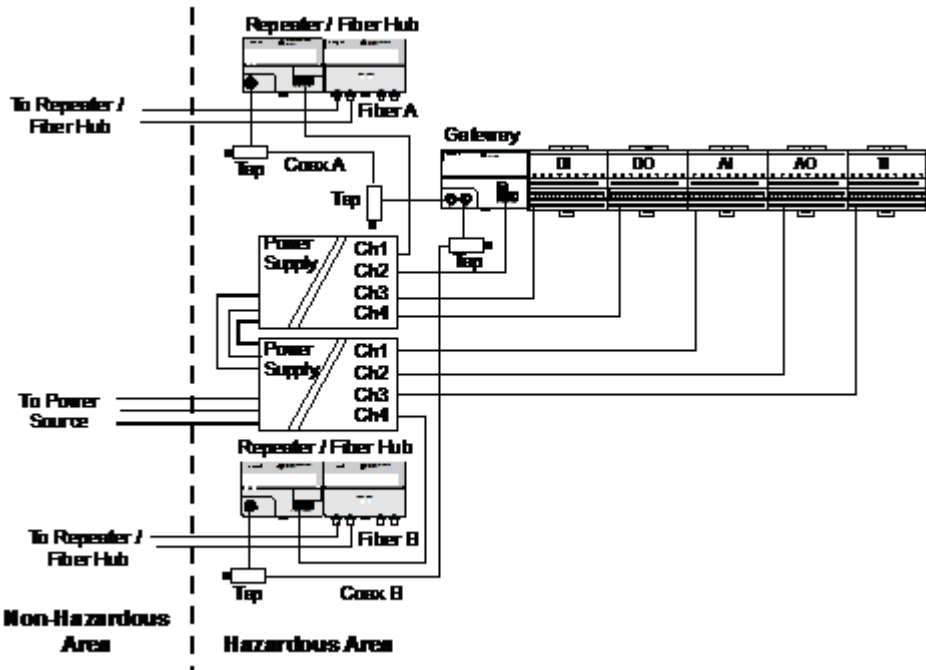

Figure 21: Example of redundant ControlNet cabling for RIOM-H segment.
- b Refer to Figure 21 for example of redundant ControlNet media cabling.